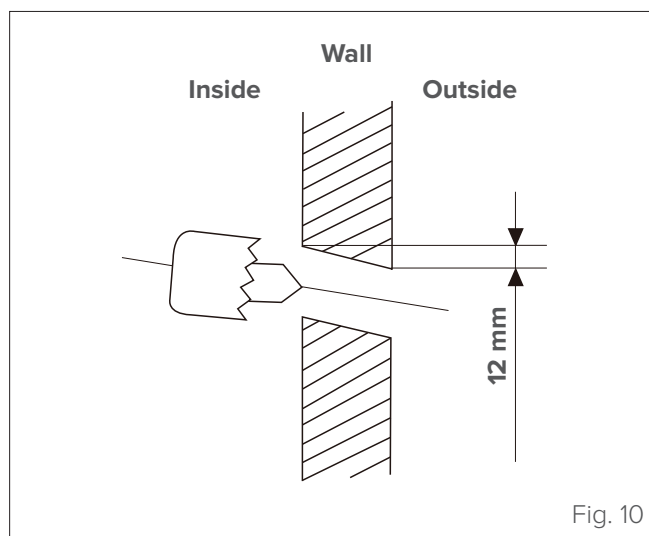

Fig. 10
- 1 Determine hole position in the wall according to the position of the outdoor unit. The hole in the wall should have a minimum diameter of 65 mm and a slight downward slope to facilitate drainage (see "Fig. 10").